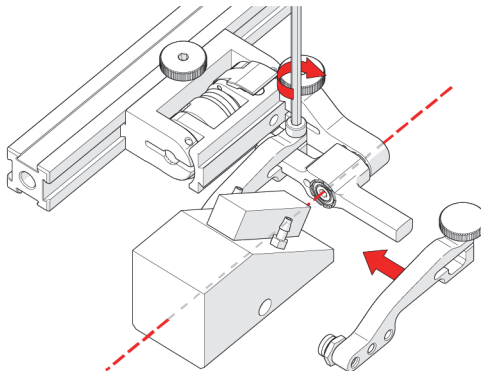

Figure 2-29 Place wedge
6. Adjust the inner probe holder arm as required to best center the probe on the yoke's pivot axis (see Figure 2-29 on page 57).
7. Position the wedge on the inner probe holder arm (see Figure 2-29 on page 57).
8. Tighten the arm clamp screw (see Figure 2-29 on page 57).